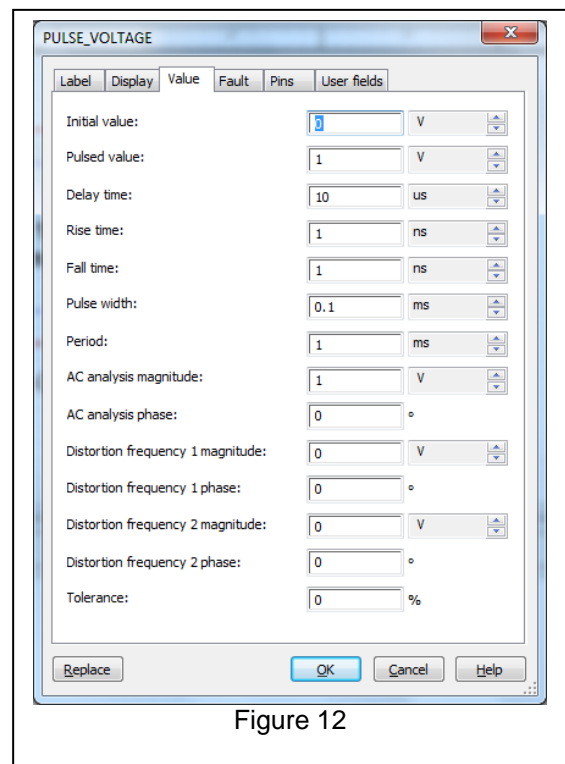

Figure 12
- Double-click on the pulse voltage source and set the values as shown in Figure 12.